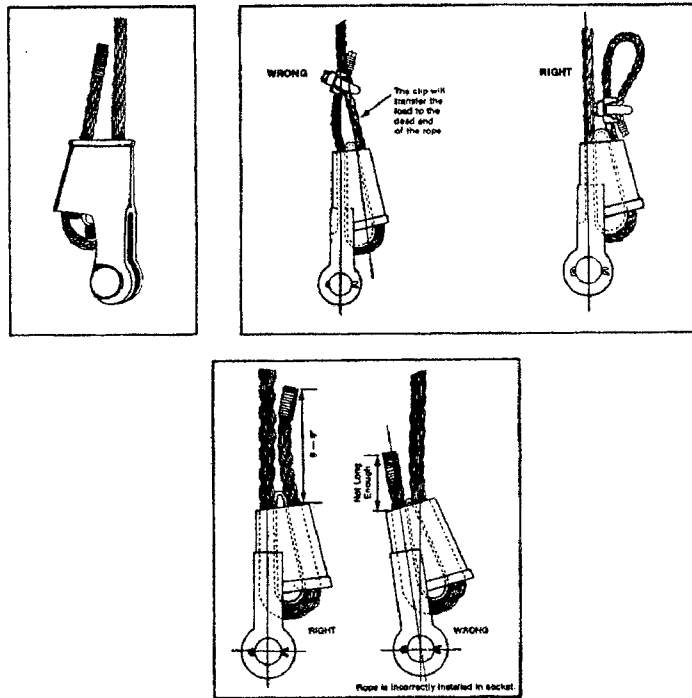

Fig. 2-17 The wedge socket
(1) Review work (if assembled correctly, the end of the rope will be visible in the inspection holes. No more than four threads should be visible on the sleeve after tightening.)
(2) Apply proof load to the assembly (the plug will seat further in the sleeve and the rope will not be visible in the inspection hole).
(3) Paint end fitting and a section of the wire with white paint so it will be readily apparent if the fitting slips.
- e. **Wedge Sockets.** Wedge sockets are the simplest fittings because of their ease and speed of applying and detaching. Wedge fittings are authorized only for overhead lifting aboard construction tenders. A wedge socket can withstand only approximately 75 percent of the break strength of the rope. The installation of the wedge socket is fairly obvious, but a few procedures must be observed (See **Figure 2-17**):
- (1) Make certain that the live end of the rope lines up with the hook.
- (2) Extend the dead end of the rope 6 to 9 times the rope diameter.
- (3) Place a wire rope clip around the dead end by clamping a short, extra piece to the tail. These precautions are necessary to ensure full performance of the fitting. Periodically checking the length of the tail to determine if the rope is being pulled through. The wire rope clip keeps the rope from flattening, which would permit easier pull-out and failure.